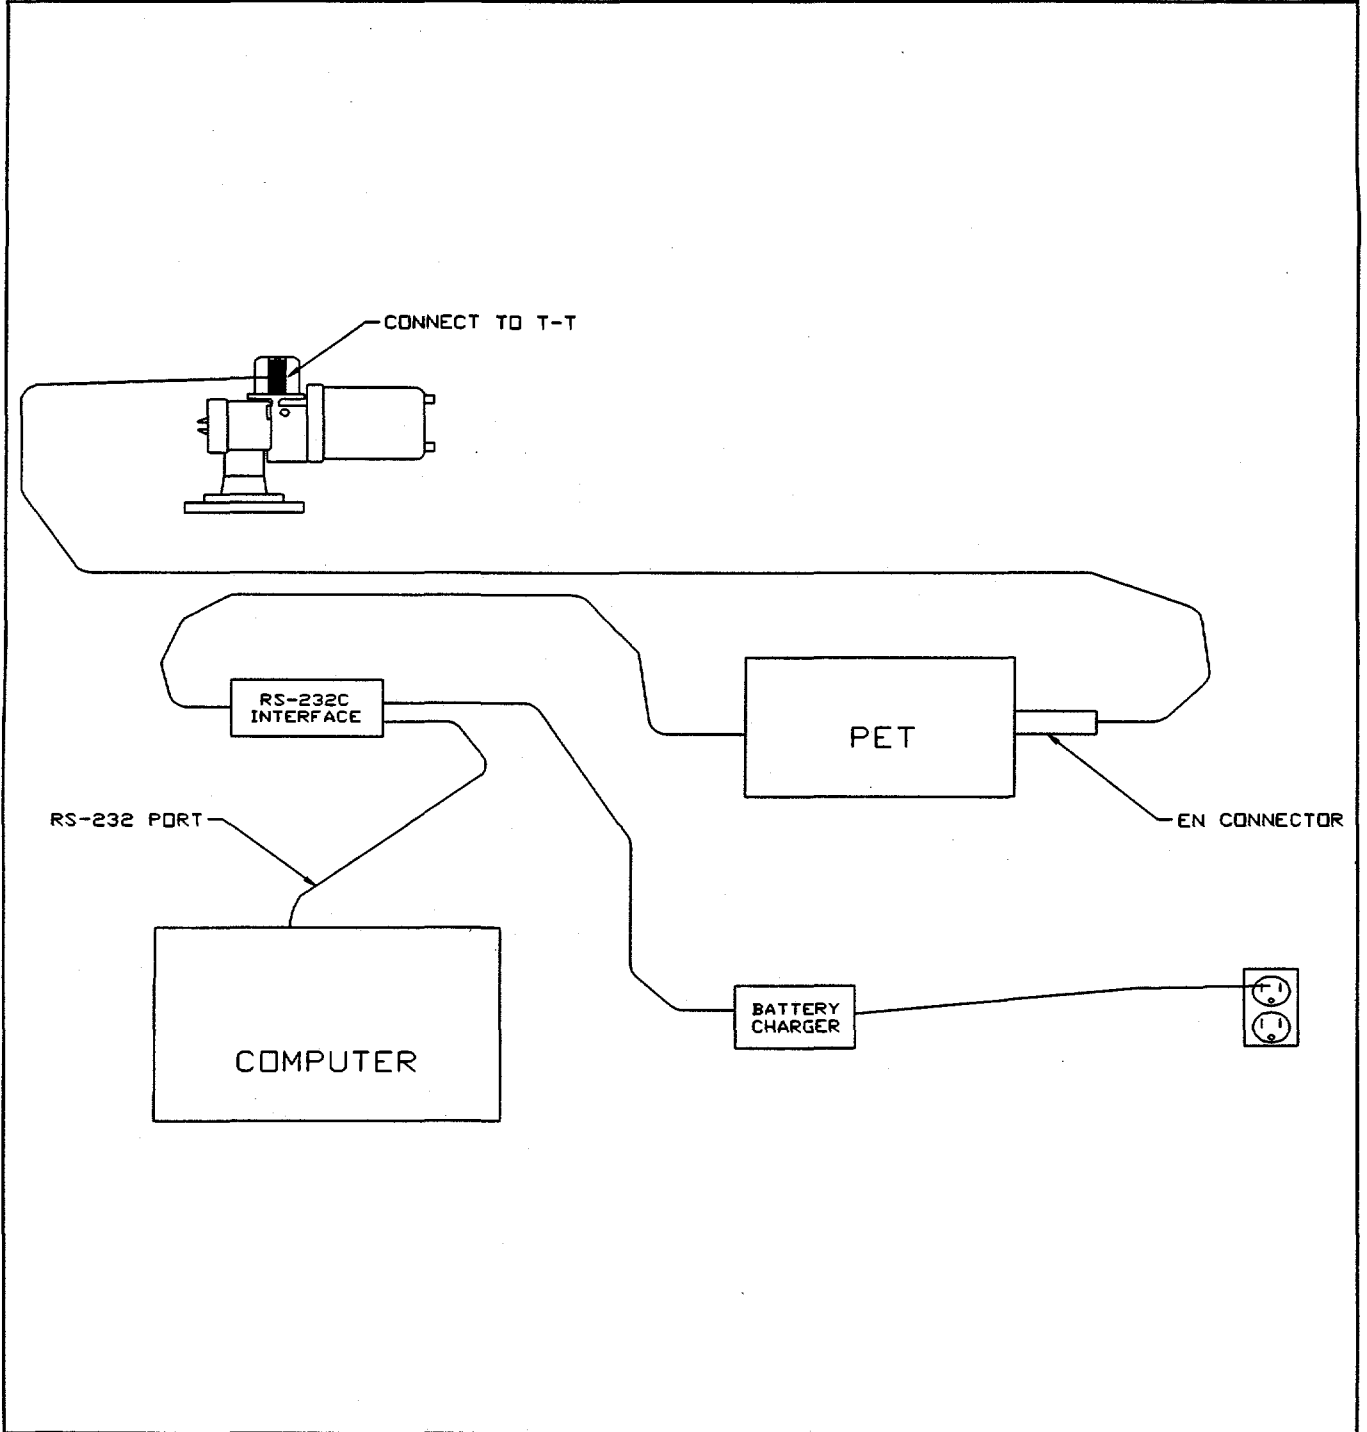

Figure A-1
3. Disconnect the infrared connector, and connect the computer and PET to the gauge per Figure A-1.